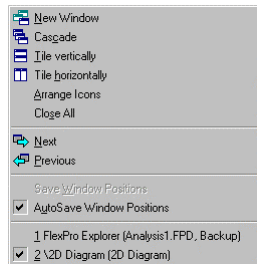

Figure 3.4: Entries in the Window menu
*Note:* During the standard installation FlexPro is setup in a way, that the screen position of all windows is arranged again automatically when opening it the next time. This default setting can be activated or deactivated by clicking on WINDOW – *AutoSave Window Positions*. The activation of this command on the other hand takes care of returning to the optimal configuration. Is the window position displayed in the following figures to be restored, the command will be used here now. As with all Windows applications you can switch the active window using the entries at the bottom of the menu WINDOW (Fig. 3.4). Clicking on the desired window title makes the respective window active.